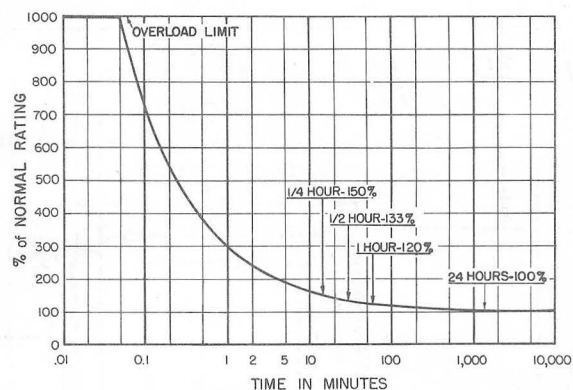

Figure 3
4. For services where an initial surge current may be expected (as in motor starting, incandescent lamp control, etc.), the Variac rated current may be exceeded on a time-current basis as depicted in Figure 3. At no time should more than ten times (1000%) rated current be drawn from the Variac.